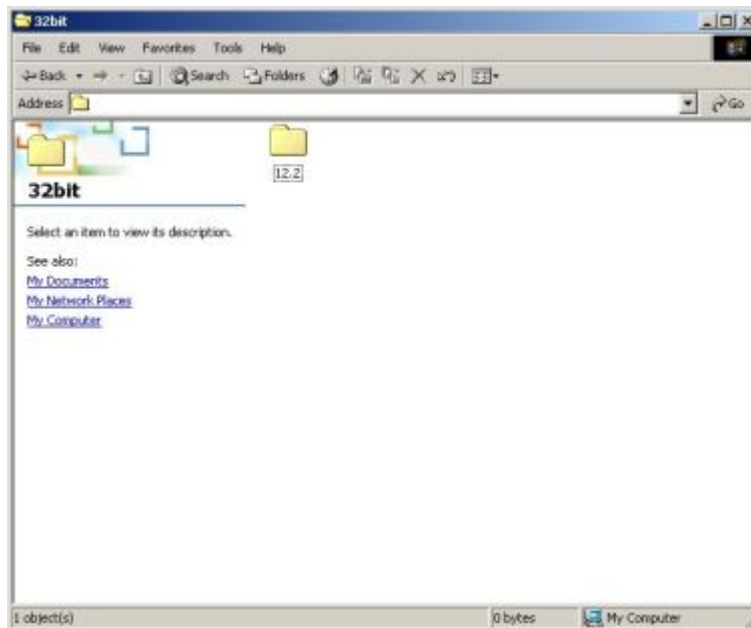

Figure 7-22: Driver Directory
Step 8: The window in **Figure 7-22** appears.
Step 9: Click on the directory icon in **Figure 7-22**.
Step 9: Click on the directory icon in Figure 7-22.